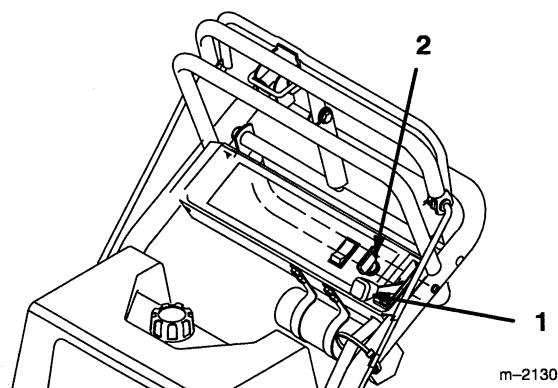

Figure 12
1. Move the throttle lever to "SLOW" (Fig. 12).
2. Turn the ignition key to "OFF" (Fig. 12).